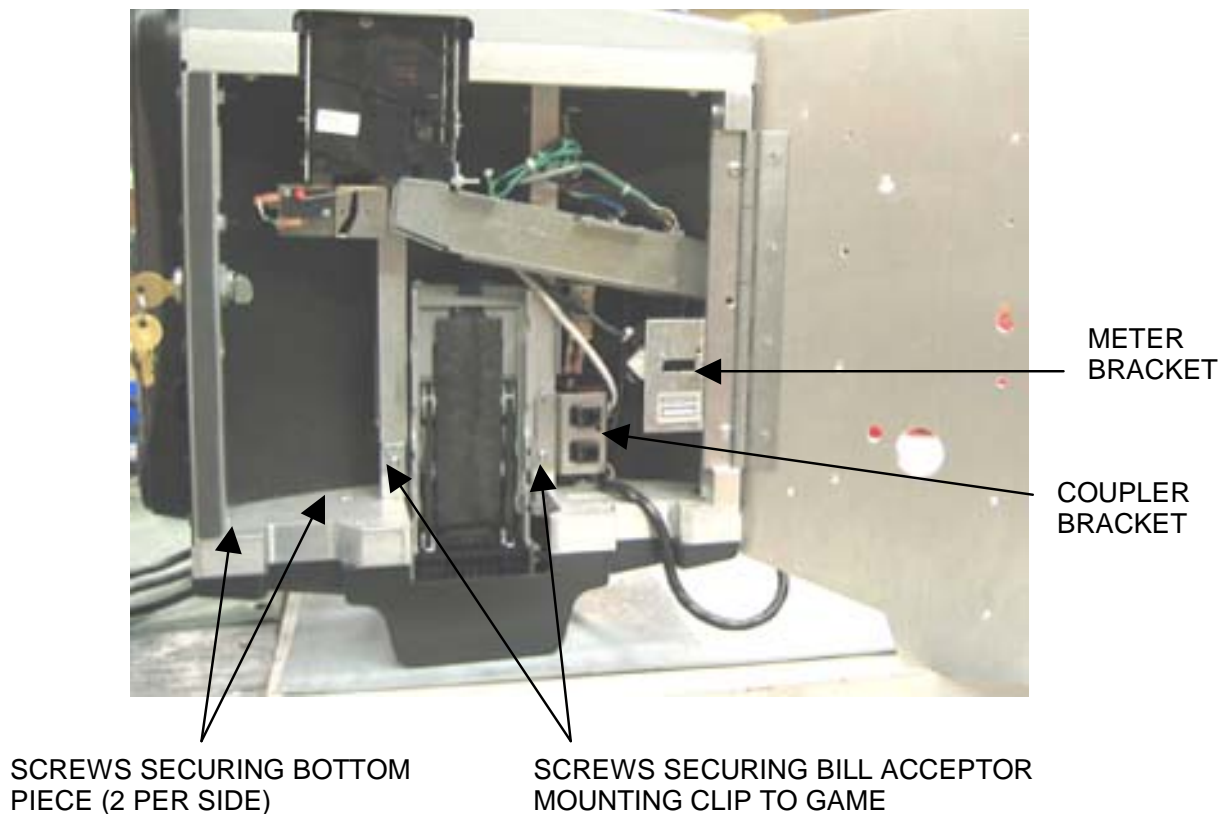

FIGURE 1 - EVO WALLETTE/MEGATOUCH ENTERTAINER FROM THE REAR
4. Remove the screw securing the coupler bracket but keep the cable(s) connected. This bracket only needs to be moved aside in order to access the screw underneath. See Figure 1.
5. Remove the 4 screws securing the bottom support piece to the game and remove the bottom piece. If necessary, remove the nut and screw securing the meter bracket and remove the bracket in order to access the screws. See Figure 1.
6. Remove the remaining screw securing the bill acceptor mounting clip to the game. See Figure 1.